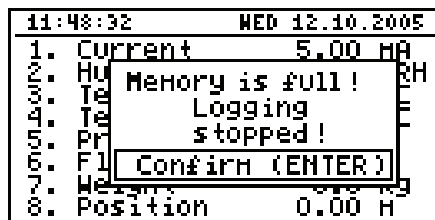

Fig. 7.15. Warning in "until full" recording mode
- "until full"** - once the entire available memory is filled with recorded measurement results the recording will be stopped and a warning message (Fig. 7.15) shall be displayed; this warning message must be confirmed with the [ENTER] key.